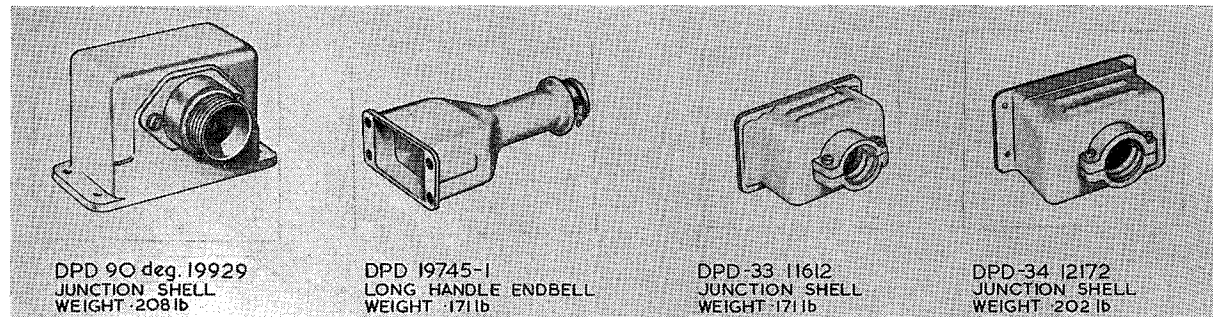

Fig. 2. Junction shell styles
11. The range of accessories (fig. 2) consists of a long handle endbell and three junction shells, shown, with dimensions, in fig. 6.